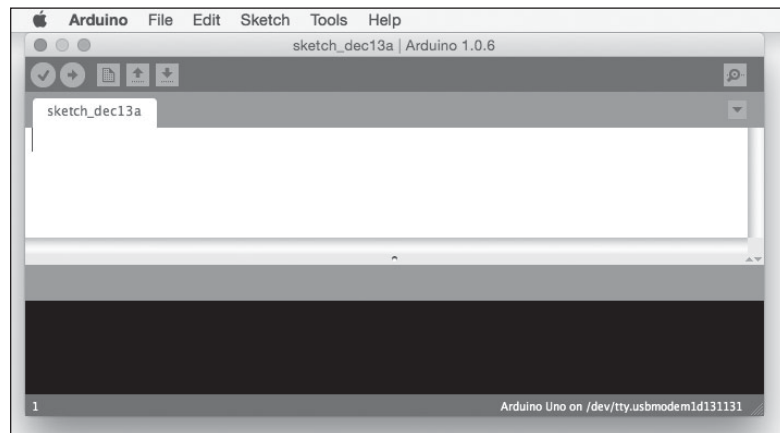

Figure 1-11: The IDE in Mac OS X
2. A window may appear warning you about opening a web app. If it does, click **Open** to continue. You will then be presented with the IDE, as shown in Figure 1-11.